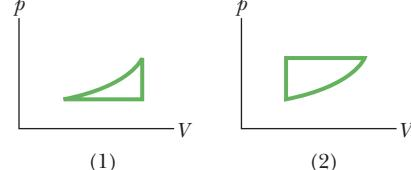

Figure 18-27 Questions 7 and 8.
- 7** Figure 18-27 shows two closed cycles on  $p$ - $V$  diagrams for a gas. The three parts of cycle 1 are of the same length and shape as those of cycle 2. For each cycle, should the cycle be traversed clockwise or counterclockwise if (a) the net work  $W$  done by the gas is to be positive and (b) the net energy transferred by the gas as heat  $Q$  is to be positive?
- 8** For which cycle in Fig. 18-27, traversed clockwise, is (a)  $W$  greater and (b)  $Q$  greater?